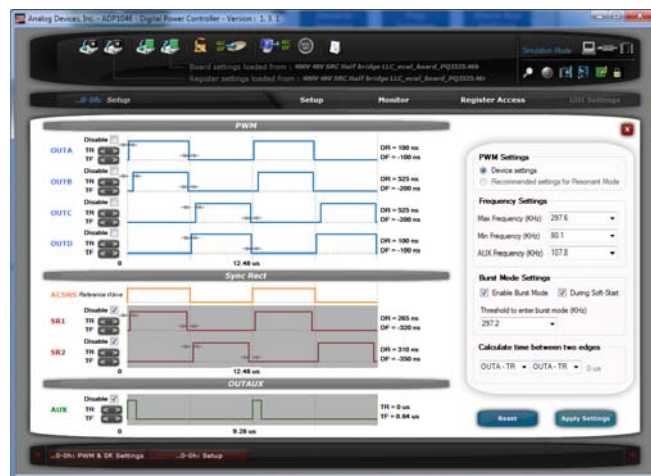

Figure 18. PWM and SR Window (Half Bridge LLC Resonant Topology)
- All the signals shown in Figure 18 represent the signals at the output pins of the IC.
Figure 18 shows a typical PWM configuration for a half bridge LLC resonant topology. OUTA and OUTD form the PWMs of the half bridge on the primary side, while OUTB and OUTC form the drive signals for the two synchronous rectifiers.